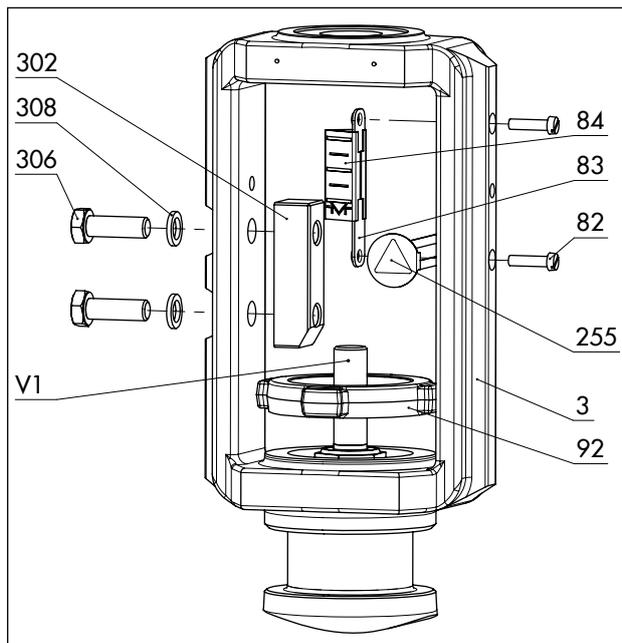
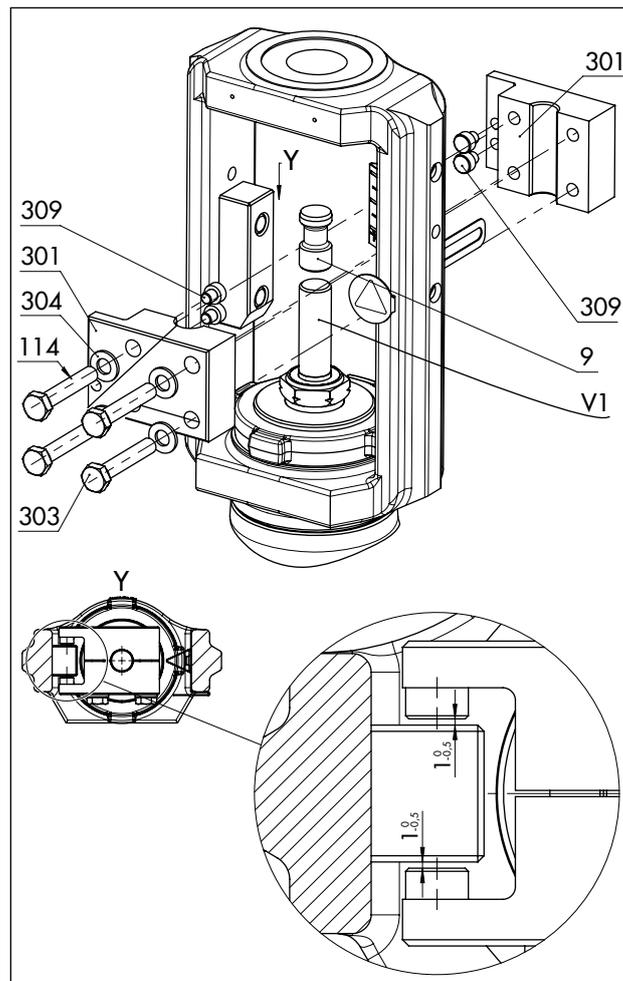

Fig. 16: Overview of yoke assembly with travel indicator scale in the special version
Fig. 17: Overview of anti-rotation fixture assembly in the special version
See Fig. 16 and Fig. 17
- There is a nominal clearance of 0.5 to 1 mm between the sliding washers and their contact surface on the yoke on each side (see detailed view Y in Fig. 17).